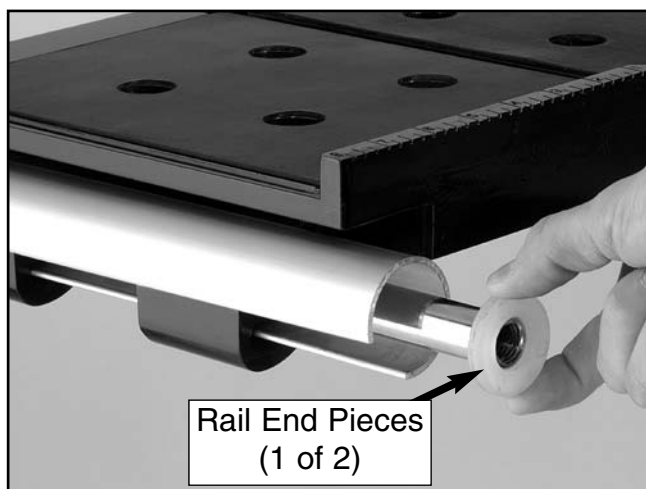

Figure 15. Installing the rail end pieces.
12. Slide the plastic rail end pieces over each of the table rail ends as shown in **Figure 15**.